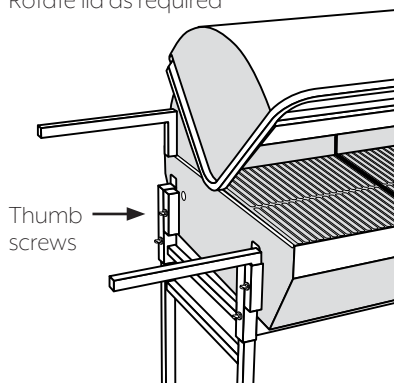

FIGURE F8
4. Insert handles into brackets and then secure with remaining thumb screws (Figure F8).